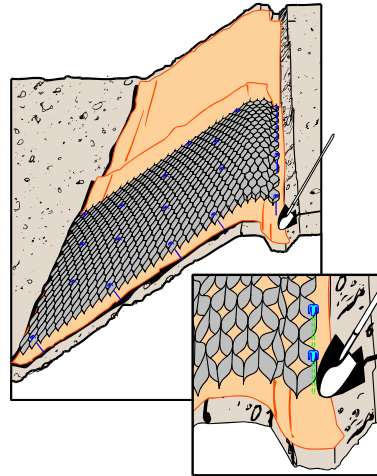

Figure 4 Placement of Geoweb® Section
- Expand the Geoweb® section down the slope to the section's specified length. See Figure 4.